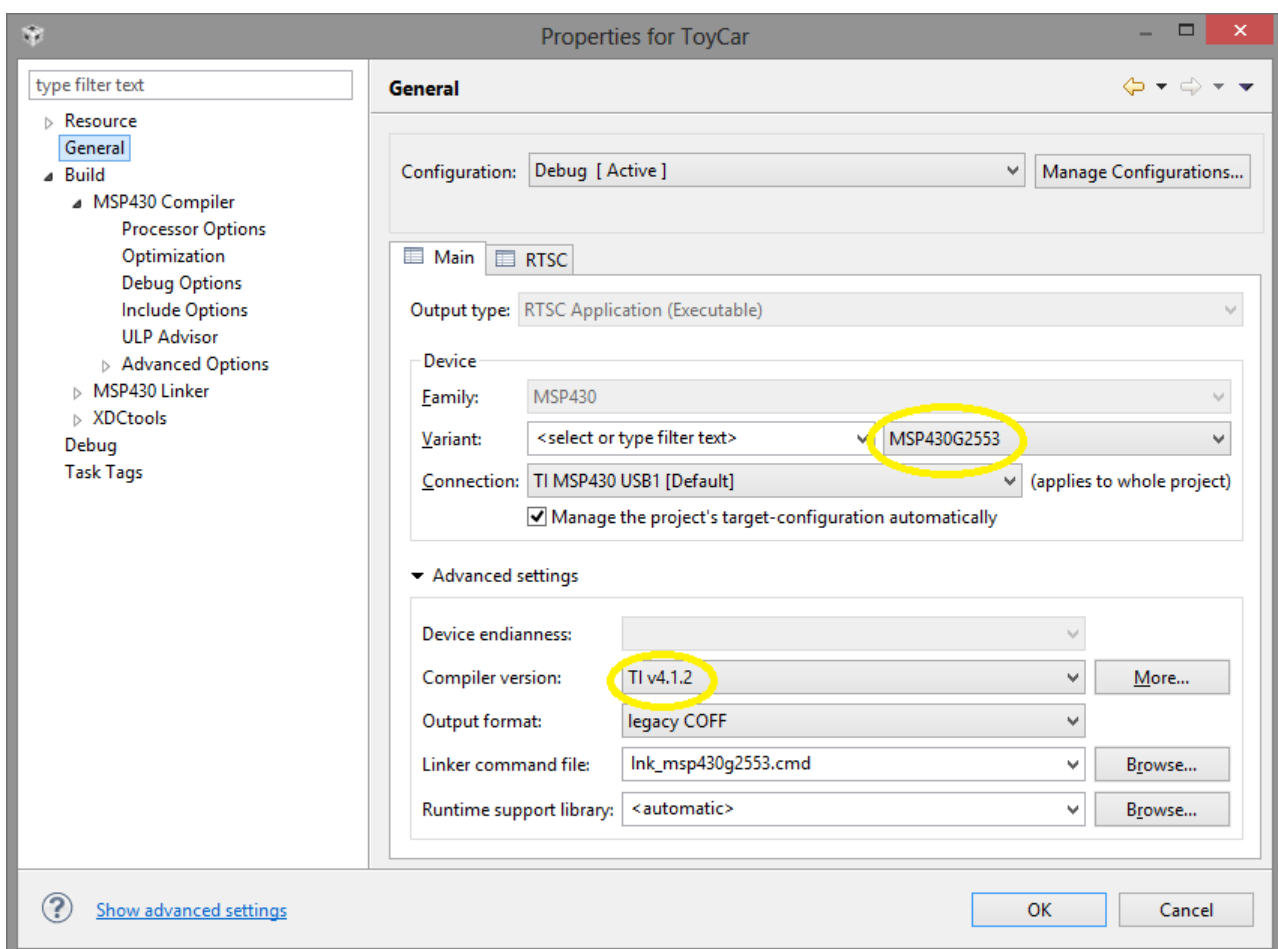

Figure 1 - The microcontroller variant and compiler version.
- In the Main tab ensure that the *variant* selected is 'MSP430G2553' and the *compiler* version chosen is 'TI v4.1.2' as shown in Figure 1.